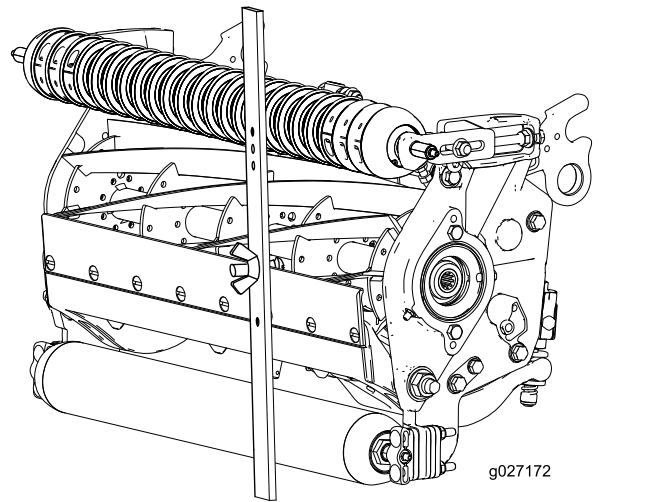

Figure 16
4. Hook the screw head on the cutting edge of the bedknife and rest the rear end of the bar on the rear roller (Figure 16).
5. Rotate the adjusting screw until the front roller contacts the gauge bar (Figure 16).